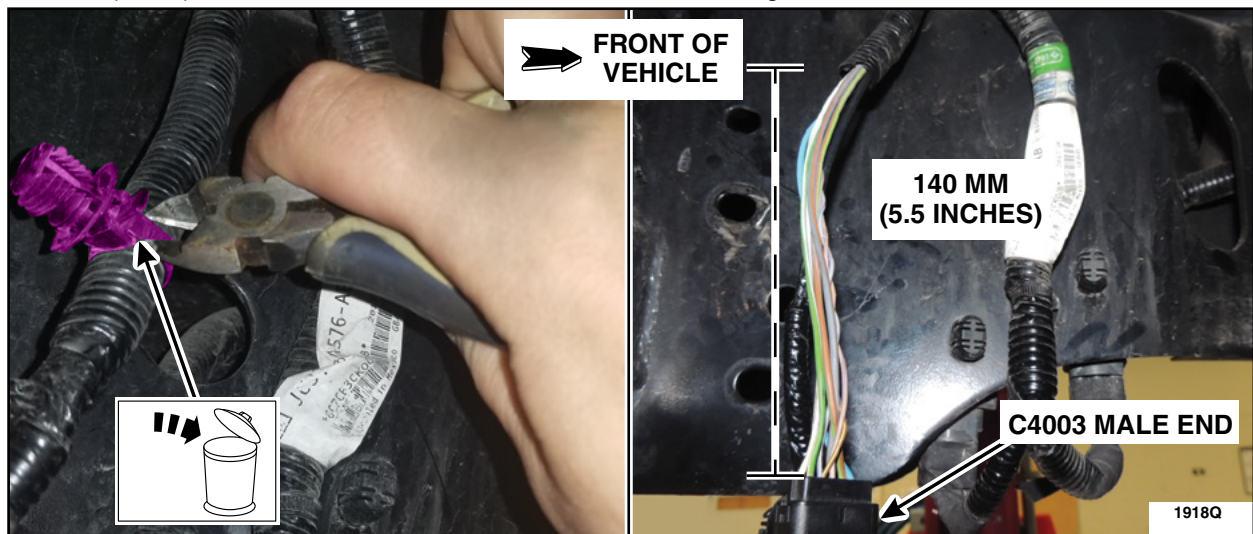

FIGURE 14
17. Remove and discard the wire harness push pin tie strap and remove the tape and convolute back 140 mm (5.5 in) from the back of the male end of C4003. See Figure 14.